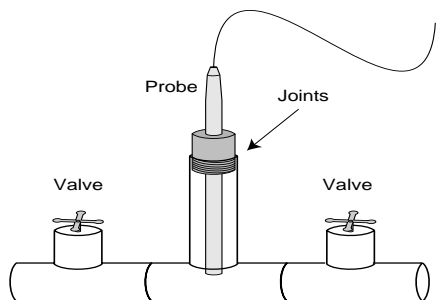

Figure 2.6 • In-Line Location Using Tee Fitting
- In-Line Location Using Tee-Fittings (Figure 2.6).
The probe is placed into a tee-fitting, as shown in Figure 2.6. You will need to provide the tee-fitting for this installation. The diameter of the in-line portion of the tee should be 1/2
Be sure to install water shut-off valves, as shown in Figure 2.6, to permit probe replacement. All fittings must be secured so there is no water leakage.
The in-line installation shown in Figure 2.6 is the preferred installation method because the tee-fitting is a natural conductivity cell and it provides the most accurate measurement environment.